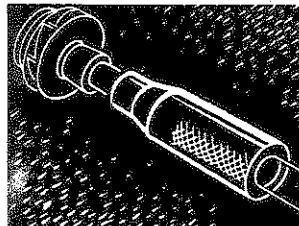

Figure 9
5. Tap out taper lock bushing (5, Figure 1) with beater (Figure 9). Remove impeller (4, Figure 1) from bottom of shaft.
4. Spread the taper lock bushing with a screw driver or wedge inserted in the split at the wide end. Slip it along the shaft and into the bore of the impeller. Remove the screw driver and clean off any burrs left by the screw driver. Pound the bushing tightly into place with the beater (Figure 9).